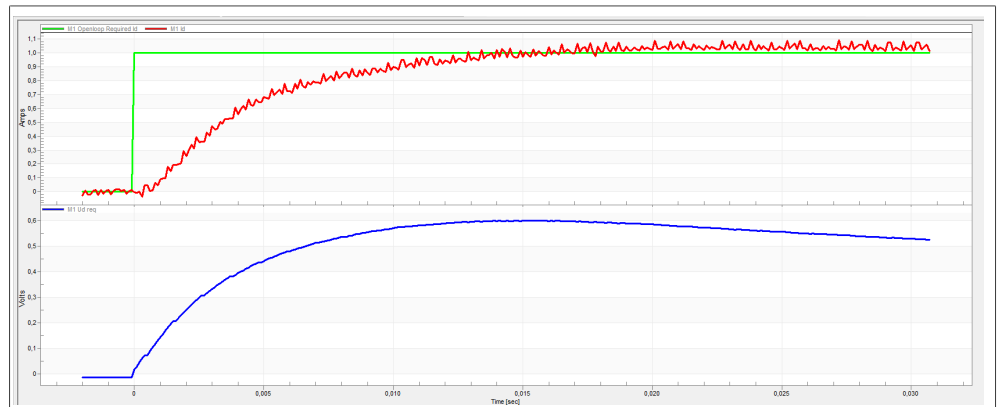

Figure 26. Slow step response of the Id current controller
- The loop bandwidth is low (100 Hz) and the settling time of the Id current is long (Figure 26).